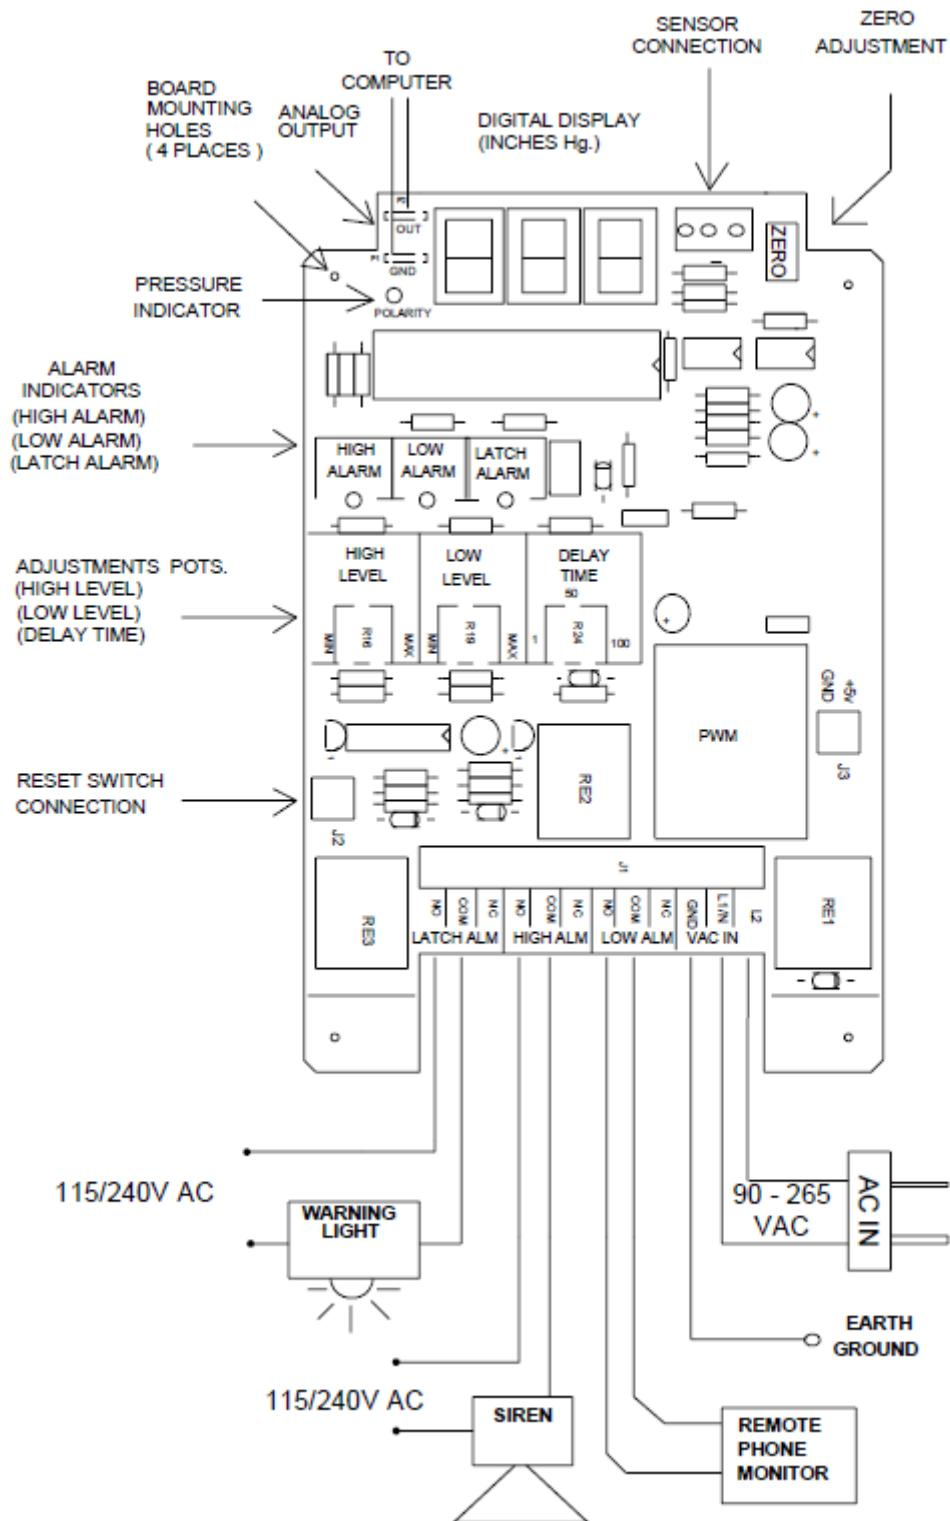

FIGURE 2
When either the high or low indicators are active, this starts the delay timer. If the alarm is active longer than the preset delay time, then the latch LED indicator will become active. This indicator stays active until the manual reset button (See Figure 2) is pushed. This indicator implies that either an alarm had occurred or is still active. If the latch indicator is on and the High/Low indicators are off, then an alarm condition has occurred, but is not active now. If either the High or Low indicators are active, then this represents that the alarm condition is still active.
When either the High or Low Alarm relays become active or the delay time is over, the latch alarm relay also becomes active. This is indicated by the Latch Alarm indicator. This relay stays active until the manual reset button is pushed. (See Figure 2)
The recommended mounting method for the VAC 2000 is to use the four (4) mounting holes located where the four (4) plastic screws are that hold down the lid. Use the box as a template for mounting. (See Figure 2)
Install the printed circuit board after the connectors have been installed. Use the four (4) #6 screws provided to mount the board in the box and tighten only to a snug fit. Do not over tighten. (See Figure 2)